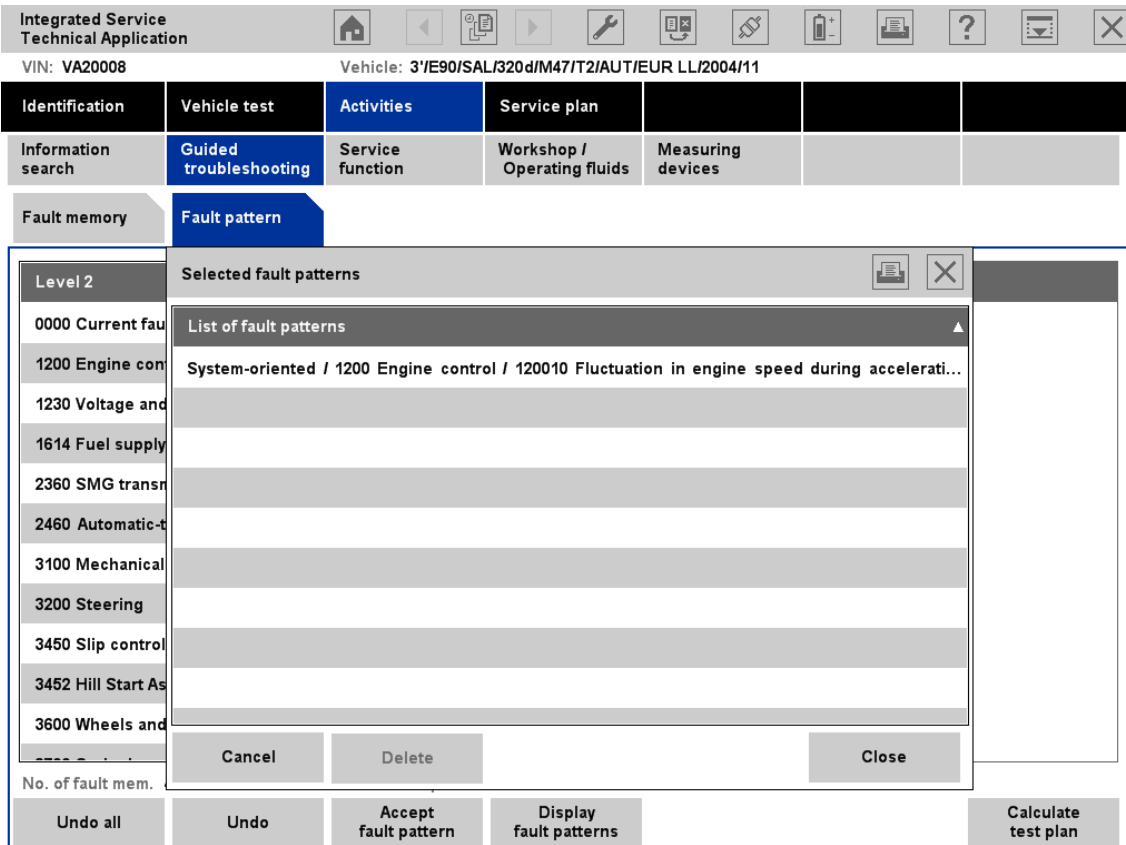

Fig. 3.29 "Fault pattern" tab with "Selected fault patterns" popup
- ◇ **Display fault patterns:** When clicking this button, a popup appears containing all the previously saved fault patterns (Fig. 3.29).